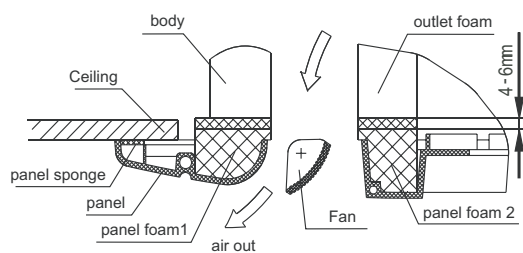

Fig.1-11
- Keep fastening the screws under the panel hooks, until the thickness of the sponge between the body and the panel's outlet has been reduced to about 4~6mm. The edge of the panel should contact with the ceiling well. (Refer to Fig.1-11)